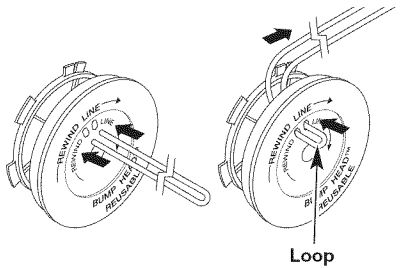

Fig. 16
6. Take approximately 20 feet (6 m) of new trimming line, loop it into two equal lengths. Insert each end of the line through one of the two holes in the inner reel (Fig. 16). Pull the line through the inner reel so that the loop is as small as possible.